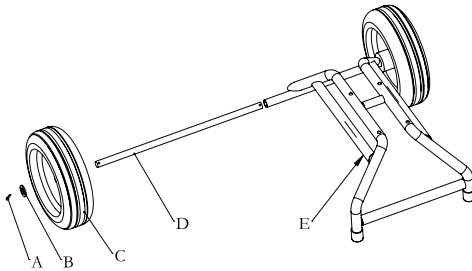

Figure 1
1. Install the wheel axle and wheels (See Figure 1)
- a. Insert axle (D) into engine support (E)
- b. Using the cotter pin (A) and washer (B) to fix the wheel (C) on the axle.